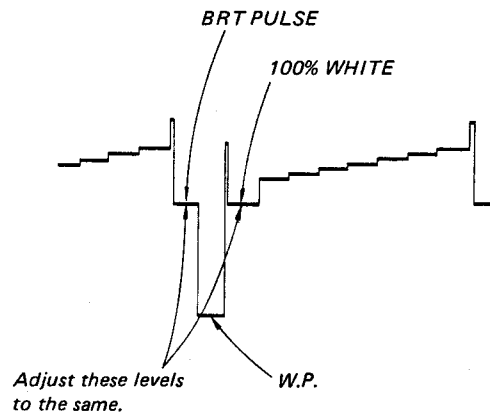

Fig. 5-139
4. Set the BRIGHTNESS control to the minimum (just before it clicks), and turn the CONTRAST control so that the brightness pulse level coincides with the 100% white level. (See Fig. 5-139.)